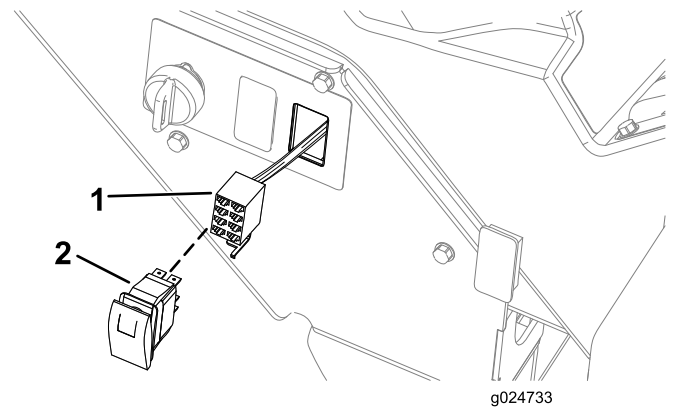

Figure 44
- Connect the 8-socket connector of the wire harness to the 8-blade connector of the hazard switch (Figure 44).